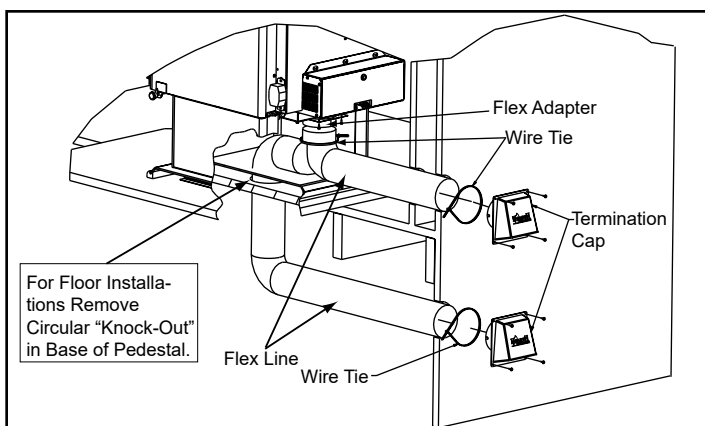
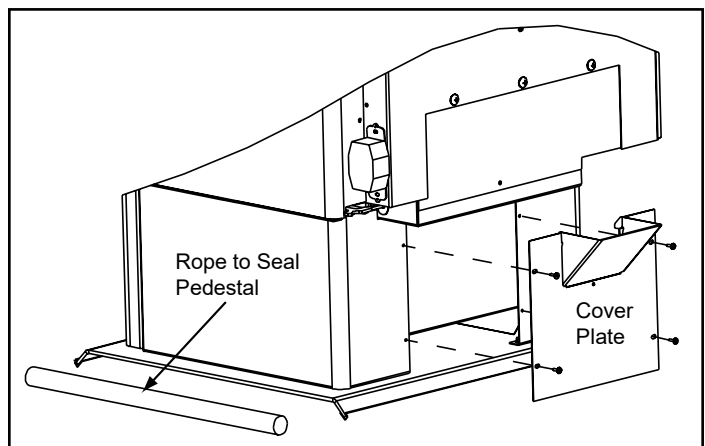

Figure 26.1 - Floor & Rear Installation
Figure 26.2 - Floor Installation Alternative
2. Using a #2 Phillips screw driver attach the flex adapter to the appliance using 4 screws (**Figure 26.1**).
5. **Floor Installation Alternative:** In some instances you may not be able to install the flex pipe as show in **Figure 26.1**. If that is the case, you will need to use a cover plate and a sealing rope that is shown in **Figure 26.2**.